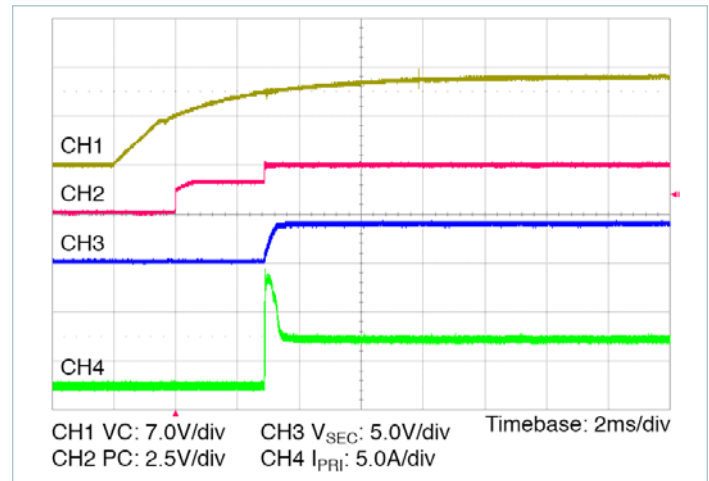

Figure 14 — Start up from application of V_C ; V_{PRI} pre-applied $C_{SEC} = 1000\mu\text{F}$
- **Stand-alone operation (VC applied after V_{PRI}):** In this case the VTM secondary will begin to rise upon the application of the VC voltage (See Figure 14). The Adaptive Soft-Start Circuit may vary the secondary voltage rate of rise in order to limit the inrush current to its maximum level. When starting into high capacitance or a short, the secondary current will be limited for a maximum of 1200µs. After this period, the Adaptive Soft-Start Circuit will time out and the VTM module may shut down. No restart will be attempted until VC is re-applied or PC is toggled. The maximum secondary capacitance is limited to 1000µF in this mode of operation to ensure a successful start.